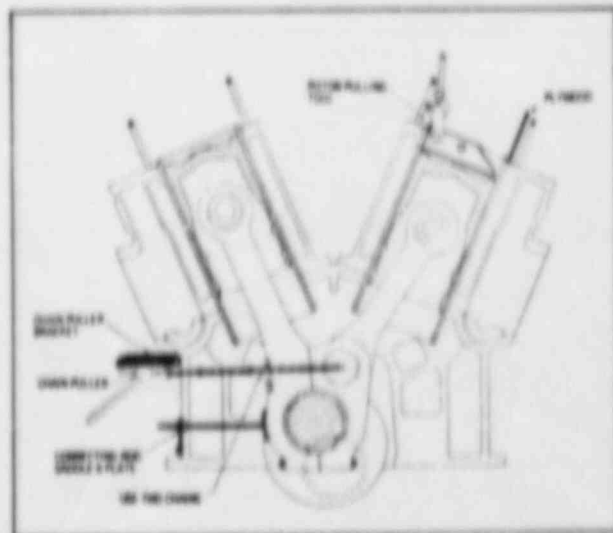

Figure 6-C-3. Tools Installed For Removing Piston and Link Rod.
g. Remove six bolts (see figure 6-C-1) which hold link rod box to master rod then slack off on chain puller, allowing link rod box to swing clear of crankpin.